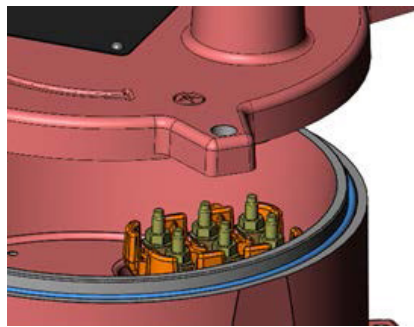
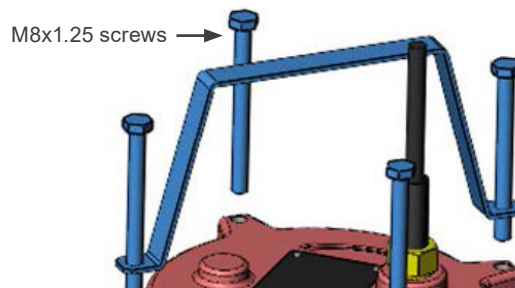

Figure 6.7: Detail of the O-ring
Figure 6.8: Tightening the screws
Step 4: after making the connection adjustment, reassemble the components in the reverse order. Be careful when positioning the upper rear cover so as not to damage the O-ring (Figure 6.7 on page 6 and Figure 6.8 on page 6). The torque required to tighten the screws must be at least 10 N·m and no more than 12 N·m.